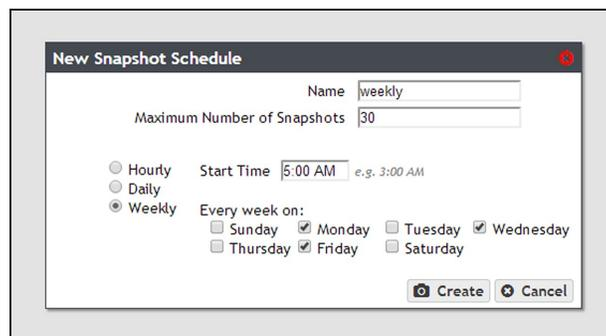

Figure 100 The New Snapshot Schedule dialog box showing the weekly interval options.
7. Select one or more days for **Every week on:**. This determines the day(s) of each week the NAS volume generates snapshots. For example, based on the selections in Figure 100, the NAS volume creates a snapshot every Monday, Wednesday, and Friday at 5:00 AM.